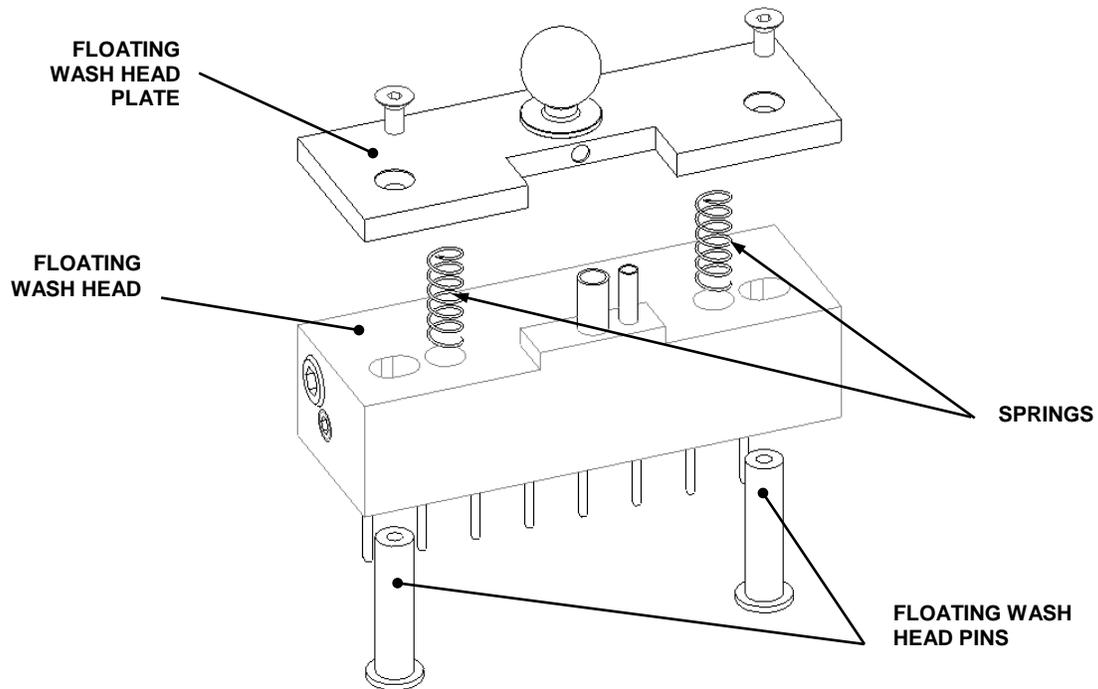

Figure 13-11: Removing the Wash Head Plate
2. The Wash Head can be disassembled by removing the two screws on the floating wash head plate (Figure 13-11)